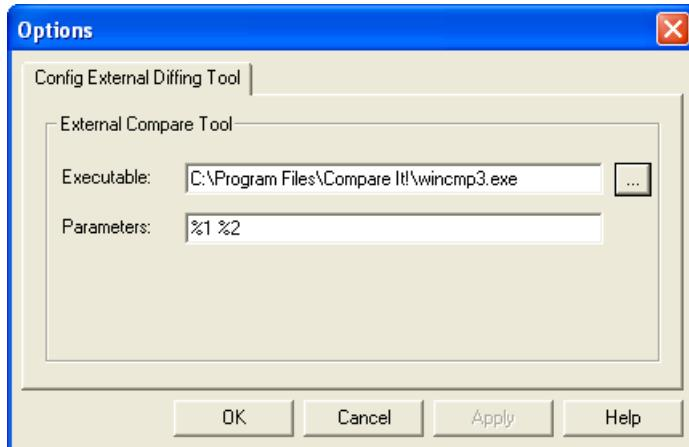

Figure 4.59 Options dialog box
- selecting **Tools > Options** from the menu. An Options dialog box similar to the one shown in figure 4.59 appears.
- specifying any command line parameters in the Parameters field. Use the place holders %1 and %2 in place of the filenames, as shown in as shown in figure 4.59. For more information and an example of how to set parameters, see section .
At a minimum, a differencing program requires the names of the two files to compare. In GSIM, these are specified using the filename placeholders **%1** and **%2** respectively, as shown in figure 4.59.